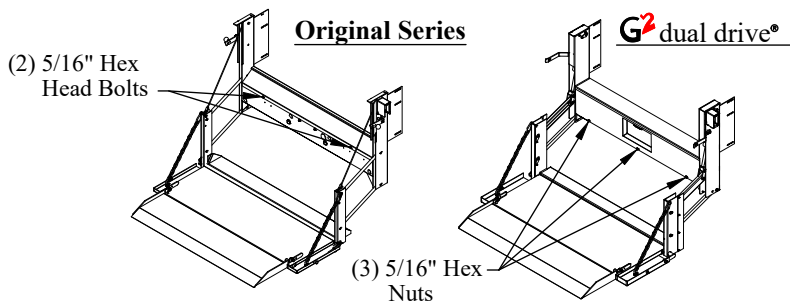

Figure 12: Box cover locations.
1. **Remove** the box cover by removing the 5/16" hex head nuts or bolts (Figure 12).